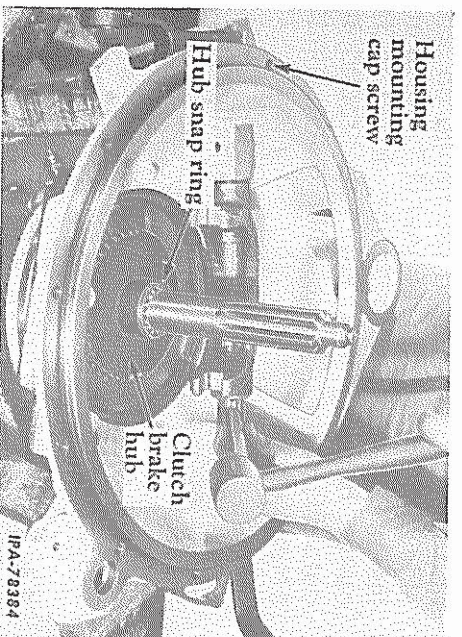

FIG. 25 — Installing the Right Hand Release Shaft Key
18. Align the splines of the brake disc (21, Fig. 3). Install the clutch brake hub over the clutch shaft and engage the teeth of the hub with the disc splines. Install the hub snap ring in the shaft (Fig. 25).
20. Lubricate the two release shafts before installing. Insert one of the clutch housing mounting screws (Fig. 25) in the hole above the left hand release bore. Insert the left hand release shaft (36, Fig. 3) carefully through the seal and bushings in the housing bore and install the key. This shaft must be installed in the housing so it will be on the left side of housing when in position in the tractor.
Place the release fork on the shaft. Insert the right hand release shaft carefully through the seal and bushings in the housing bore and install the key (Fig. 25). Tap the release shafts into the fork until the clamping bolt slots appear and secure the shafts to the fork.